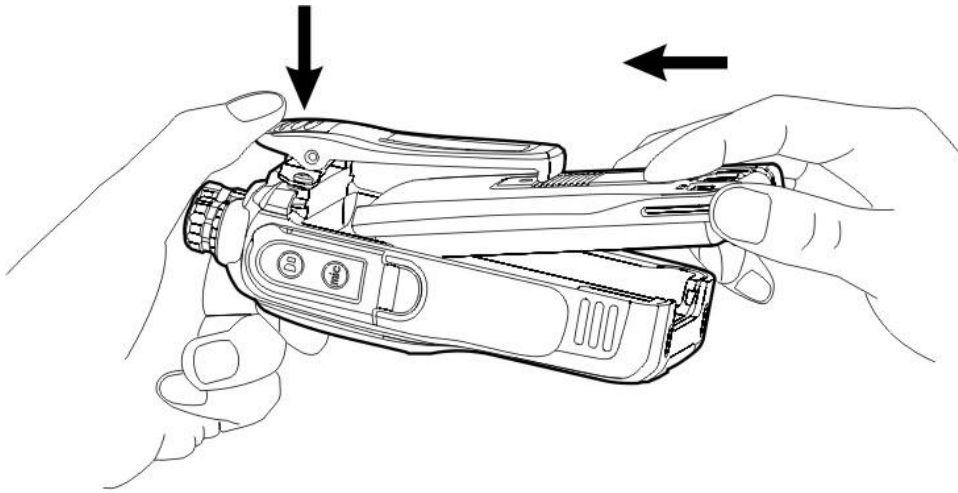

Figure 1
1. Hold the battery and make it close to the top of aluminum chassis. (See figure 1 below)